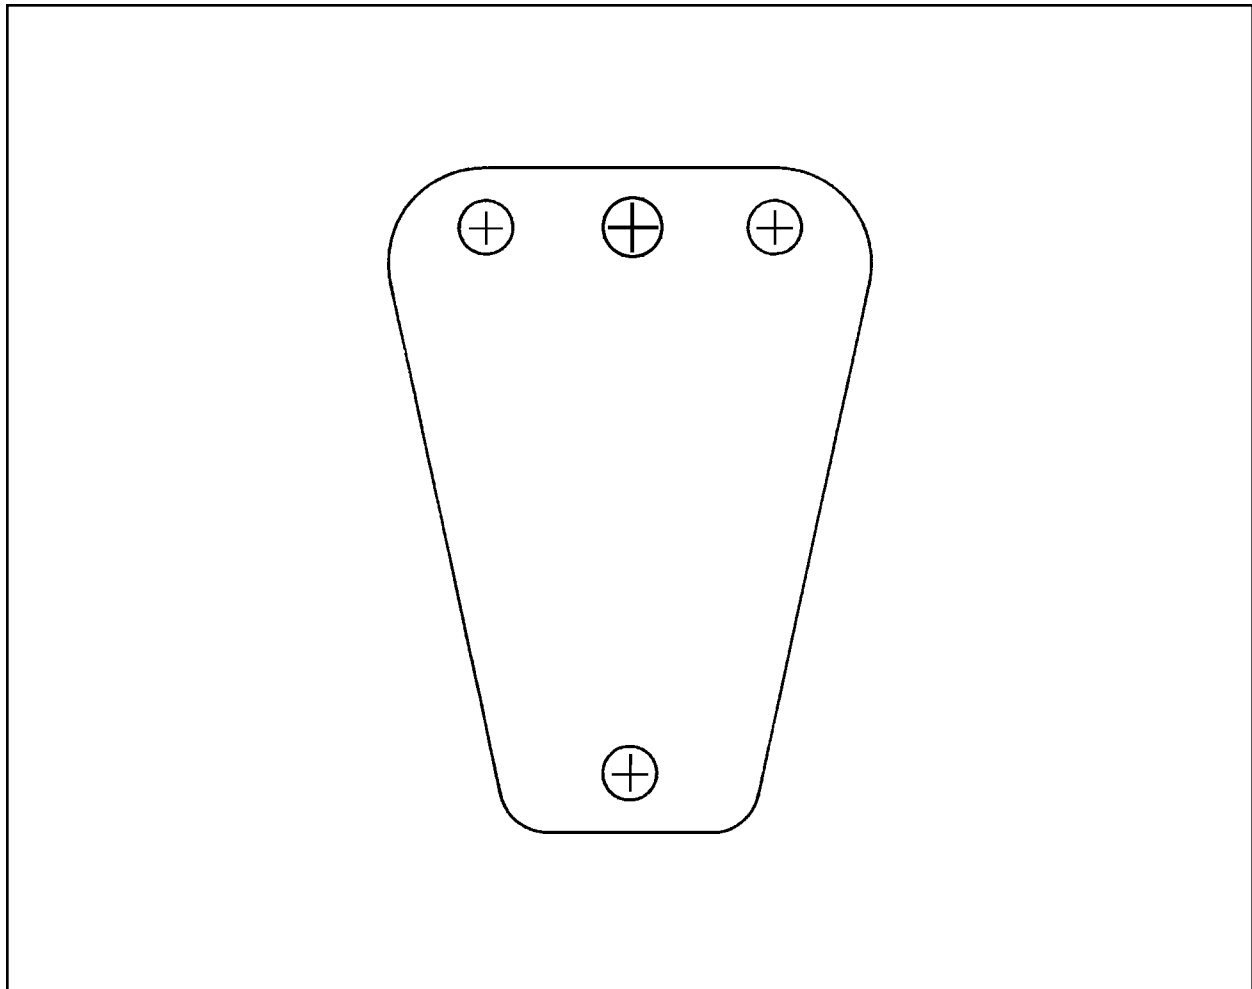

Figure 1. EM1450 Mounting Template
1. Drill holes in the mounting surface using the mount as a template, or use the template provided in Figure 1.